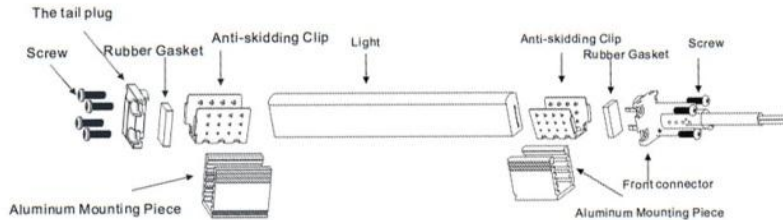

Figure 9: Proper assembly of IP68 accessories
5. Connecting your accessories properly is key to maintaining the IP rating. The general assembly is shown in Figure 9. HST stands for Heat Shrink Tube. 20 meter reels will be received with a front connector fully sealed onto each end.